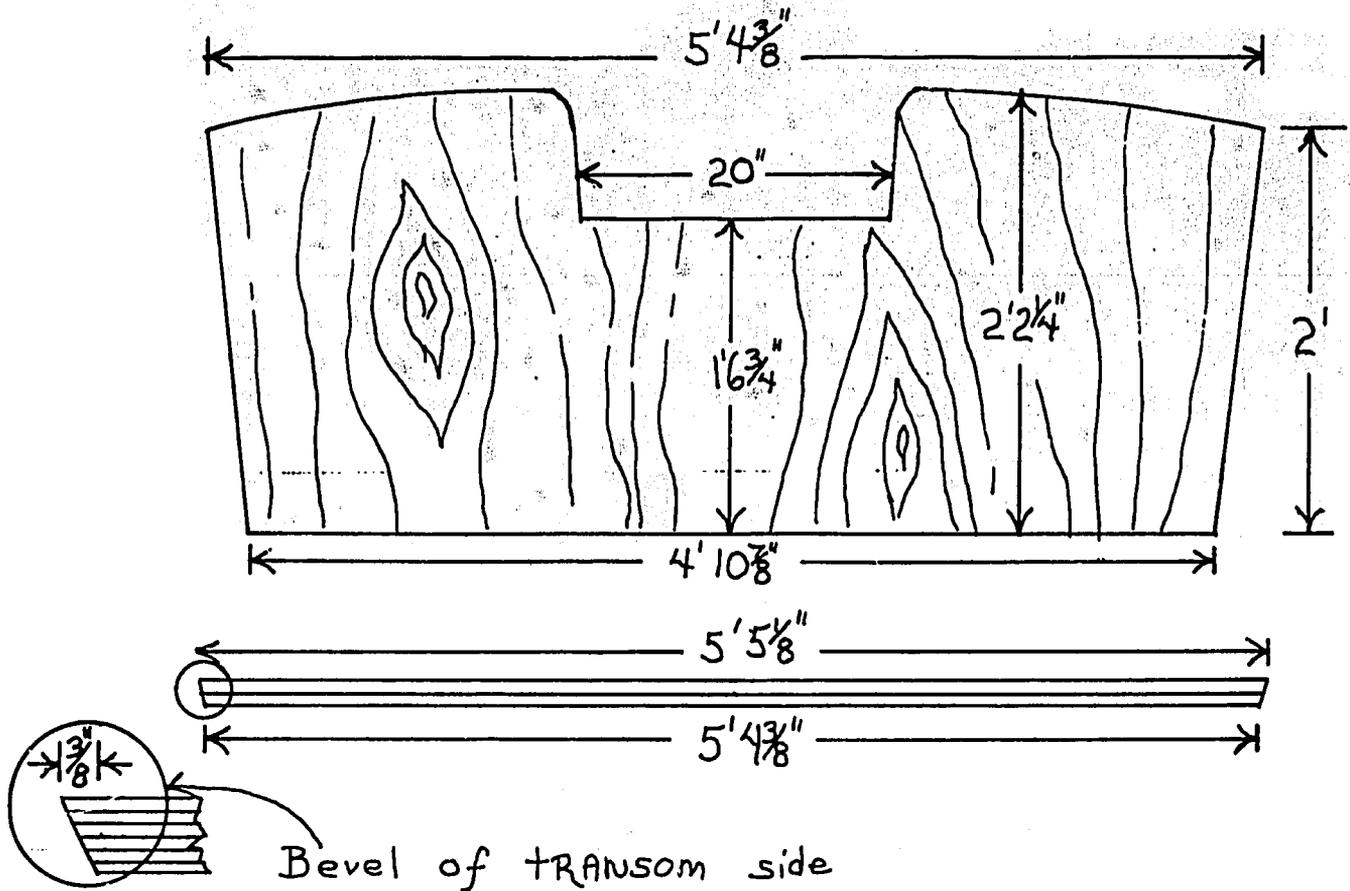

Figure 1 TRANSOM ASSEMBLY
To build the transom seven plywood pieces are cut from the plywood sheets (refer to the transom assembly diagrams). The 3 piece interior transom (Transom B) is to be glued and nailed to the 2 piece exterior transom (Transom A). If the builder does not wish to laminate separate sections two full-sized transom pieces will be glued and nailed together to provide the full $1\frac{1}{2}$ " thickness needed. If a laminated transom is constructed it is important that all surfaces have a glue bond and that each plywood seam is butted so that no two edges meet. This is necessary to provide strength. Any waterproof glue can be used in addition to nailing the transom pieces together. Nails should be $1\frac{1}{4}$ " galvanized common nails spaced 3 to 4 inches apart. In addition two transom strengthening pieces (C) (upper left hand corner of cutting plans) are nailed at each end to give the transom a $2\frac{1}{4}$ " thickness. Finally, the bevel of the side of the transom can now be cut. The transom will be beveled in $\frac{3}{8}$ " on both sides (see figure 1).
For ease of construction, the skiff will be built upside down. The stem, transom, and mold need to be rigidly set up. The stem and mold are dug into the ground, and stakes are driven next to the transom to hold it in a fixed position. Both the transom and stem are beveled as in Figures 1 & 2, to facilitate nailing of the sides. Drive the stem into the ground and fasten transom to stakes or